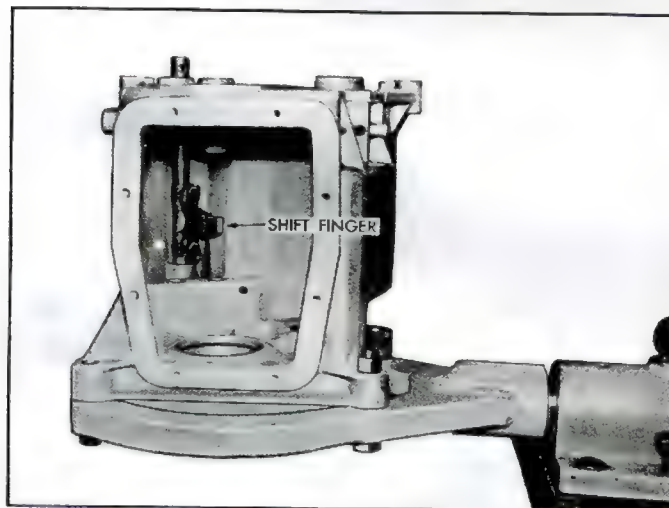

Fig. 7A-12—Manual Shift Rod Finger Installed
3. Using J-0932 expand the snap ring into the counterbore in the clutch sleeve. This raises the snap ring from the groove in the synchronizer ring so the ring may be easily slipped out (fig. 7A-15).